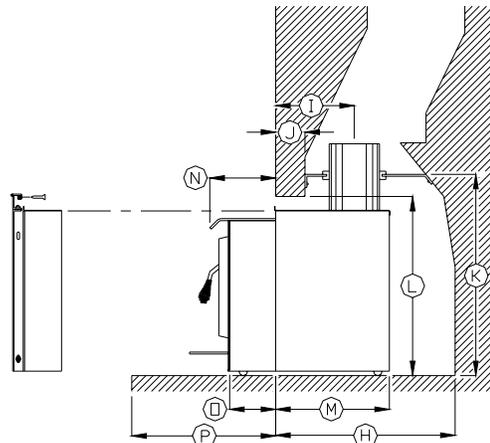

Figure 3
A. Referring to the table and Figure 3, pick a location for the positive connector plate. It will be easiest to install the plate so that the hole for the flue is somewhere in between the extreme positions, and to use the adjustability of the faceplate to take up any inaccuracies in the fit. Alternatively, the plate itself can be moved up and back by using a 6" (152mm) extension directly on the flue.
4. **POSITIONING THE UNIT:** The more extended the insert, the greater the heat transfer to the room. When installed as an extended insert, the front edge of the air jacket will be installed flush with the fireplace facing. Otherwise the unit can be moved back as much as 3.5" (89mm) or any position in between. The position chosen will depend on your own preference for most installations (where the lintel is less than 6" (152mm) and the depth is greater than 12.5" (318mm)). See the table and Figure 3.